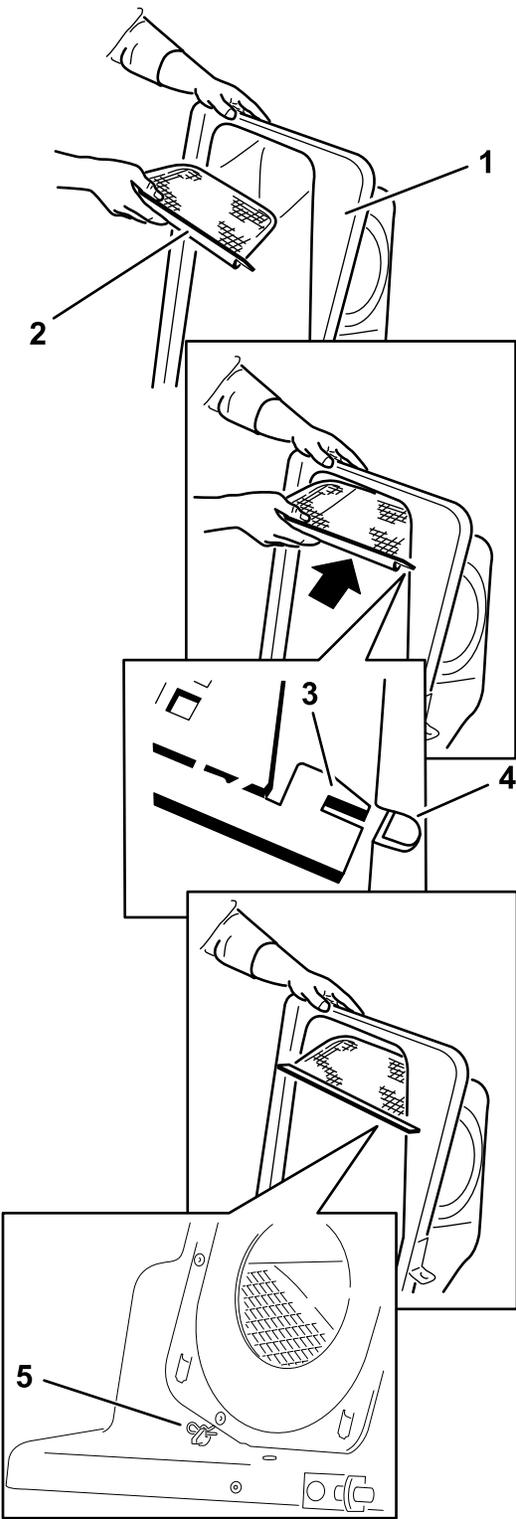

Figure 19
2. Install the screen as shown in Figure 19 and ensure that it slopes down toward the collection bags.